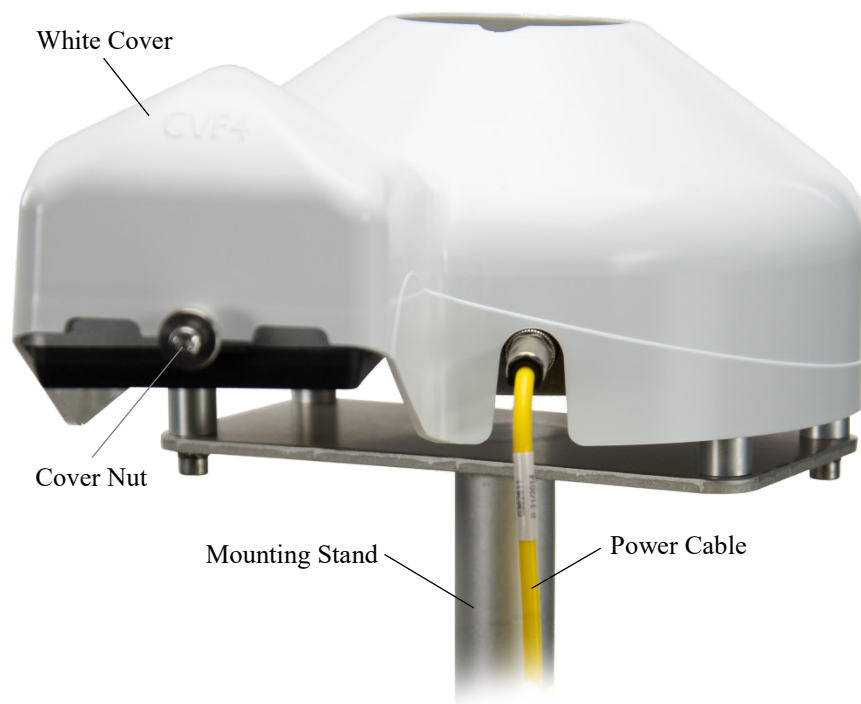

FIGURE C-8. CVF4 Mounted to CVF4 Mounting Stand (pyranometer not shown)
9. Fit the white cover onto the CVF4 and secure it with the cover nuts (see FIGURE C-8).